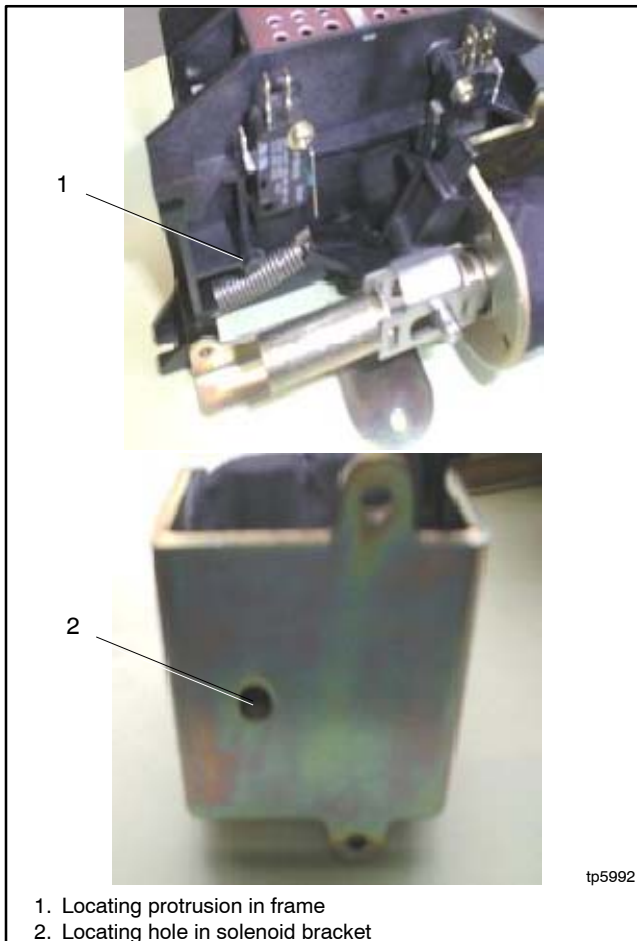

Figure 7-14 Locating the Solenoid Assembly, Typical
2. Align locating hole in the solenoid bracket with the locating protrusion in the frame. See Figure 7-14.